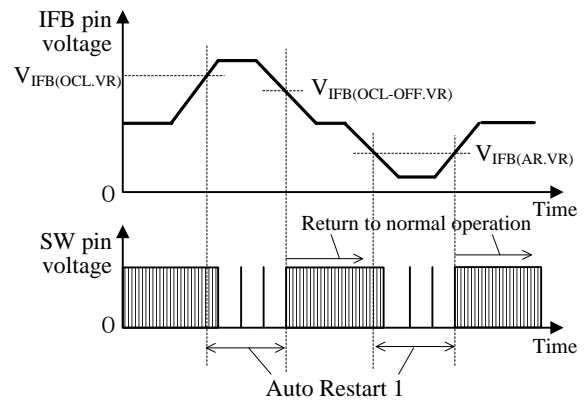
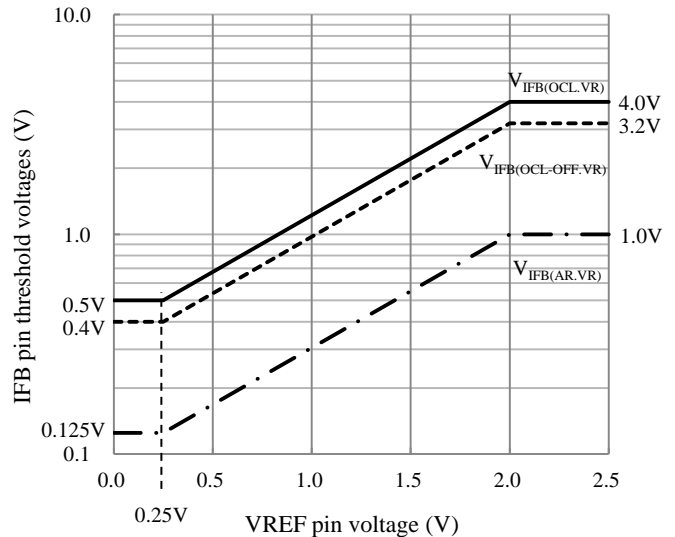

Figure 8-14 IFB pin threshold voltage and Auto Restart 1 operation
Figure 8-15 VREF pin voltage versus IFB pin threshold voltages
- Operation by the detection signal of IFB pin: As shown in Figure 8-14, IFB pin has two types of threshold voltage. These threshold voltages depend on the VREF pin voltage, as shown in Figure 8-15.
When the FB pin voltage increase to $V_{IFB(OCL.VR)}$ in Figure 8-15, or more, the operation of the IC switches to Auto Restart 1. When the fault condition is removed and the IFB pin voltage decreases to $V_{IFB(OCL-OFF.VR)}$ in Figure 8-15, or less, the IC returns to normal operation automatically.
When the FB pin voltage decrease to $V_{IFB(AR.VR)}$ in Figure 8-15, or more, the operation of the IC switches to Auto Restart 1. When the fault condition is removed and the IFB pin voltage increases to above $V_{IFB(AR.VR)}$, the IC returns to normal operation automatically.
- (2) When IFB pin voltage becomes $V_{IFB(OCL.VR)}$ or more (see Figure 8-15), the IC switches to Auto Restart 1.
- (3) The LED current increases further and when the IFB pin voltage increases to the IFB Pin Overcurrent
The OVP pin detects the divided LED output voltage by R6 and R7. When the LED_OUT (+) or the IFB pin is open and the OVP pin voltage increases to the OVP Pin Overvoltage Protection Threshold Voltage, $V_{OVP} = 3.00\text{ V}$, the IC immediately stops switching operation. When the OVP pin voltage decreases to the OVP Pin Overvoltage Protection Release Threshold Voltage, $V_{OVP(OFF)} = 2.75\text{ V}$ or the IFB pin voltage decreases to $V_{IFB(AR,VR)}$ in Figure 8-15, then the IC switches to Auto Restart 1.
When the LED_OUT (-) and the GND are shorted, and the IFB pin voltage decreases to $V_{IFB(AR,VR)}$ in Figure 8-15, then the IC switches to Auto Restart 1.
When the output current detection resistor, R11, is shorted, the IFB pin voltage decreases. When the IFB pin voltage decreases to $V_{IFB(AR,VR)}$ in Figure 8-15, then the IC switches to Auto Restart 1.